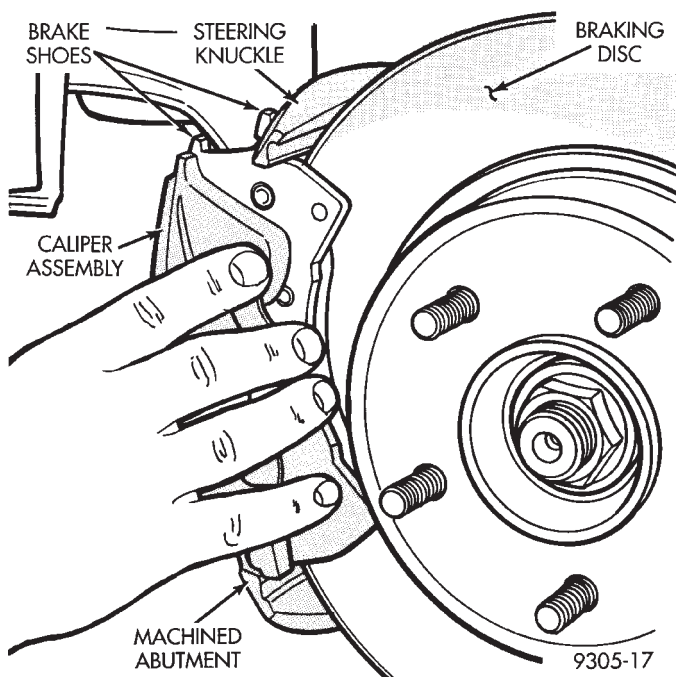

Fig. 12 Disc Brake Caliper Mounting
(5) Install front brake caliper back over braking disc and align with caliper mounting holes on steering knuckle (Fig. 12). Refer to Front Disc Brake Service in the Brake Section of this service manual for caliper installation procedure. Install the caliper adapter to steering knuckle attaching bolts and torque to 19 N•m (168 in. lbs.).